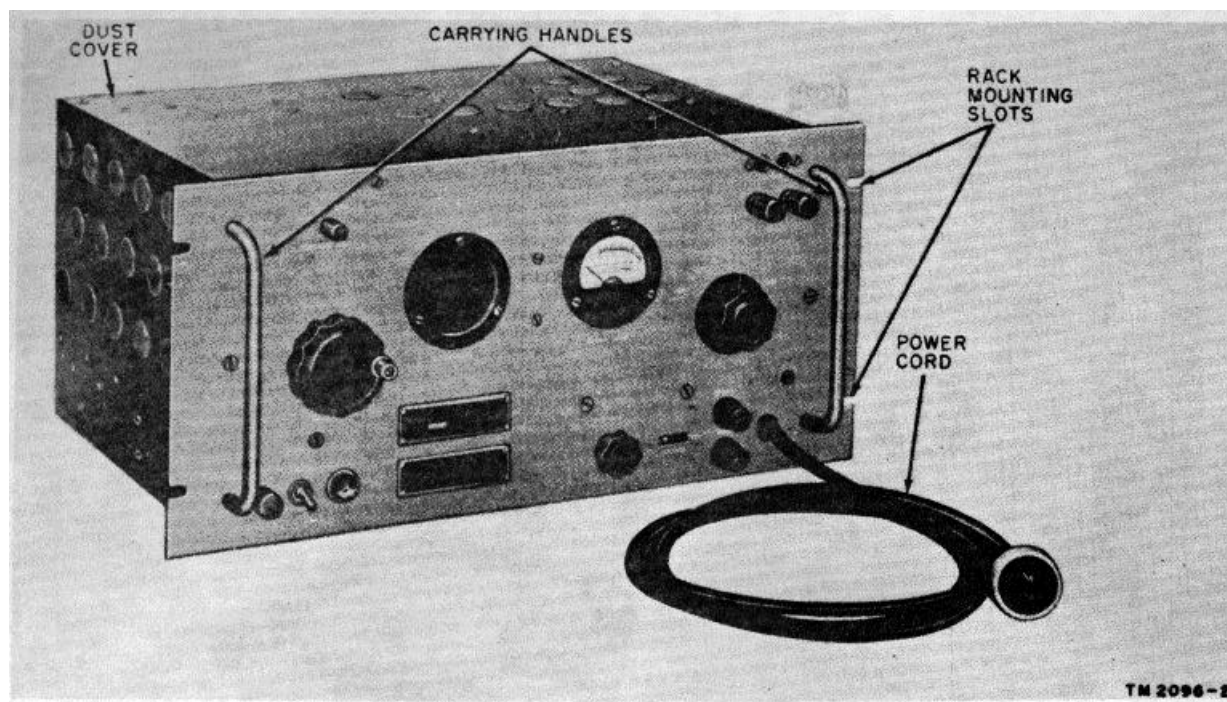

Figure 1-3. Decibel Meter ME-22(*)/PCM.
b. Decibel Meter ME-22()/PCM.* Decibel Meter ME-22(*)/PCM (fig. 1-3) is designed to measure received testing power. The unit is arranged for an input impedance of 600 or 8,000 ohms to permit direct or